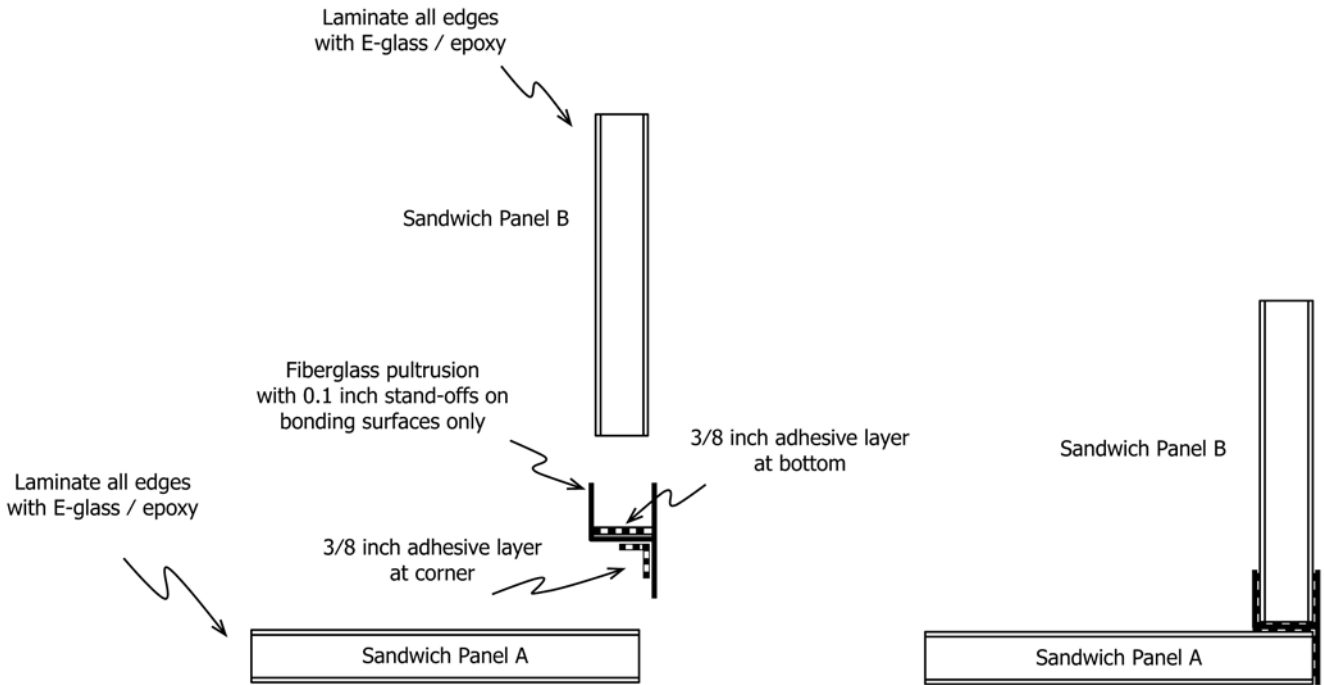
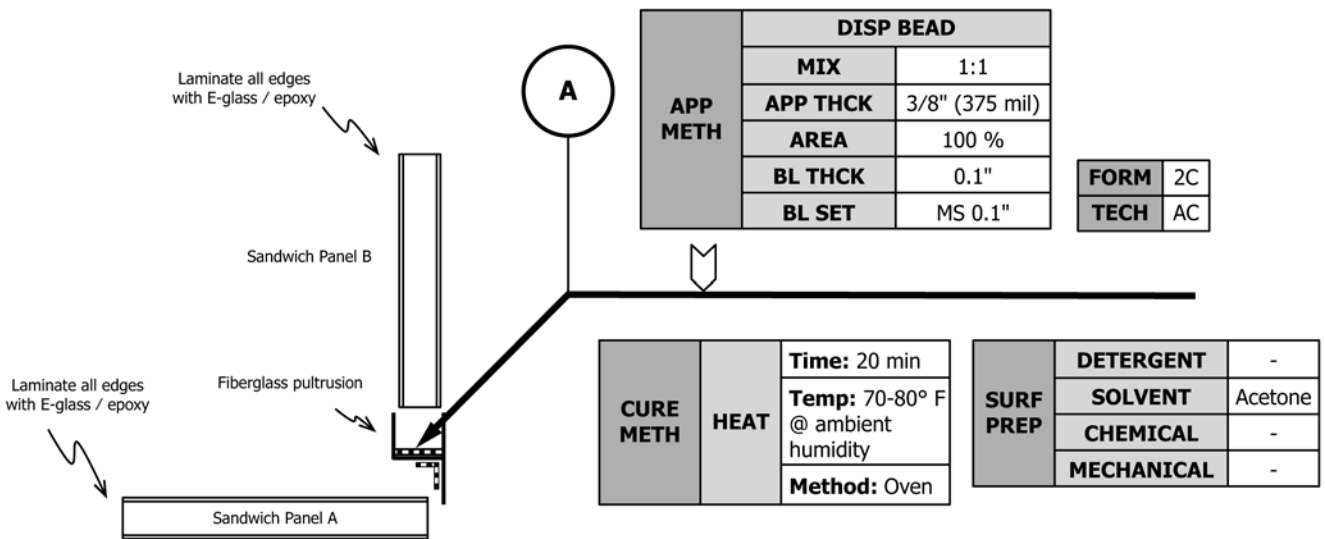

FIG. 4 Drawing Before Symbol
FIG. 5 Application of Symbol
5.8 Fig. 4 and Fig. 5 are examples of a bonded joint before and after the use of the symbol. For illustrative purposes, assume adhesive is applied in the plant.